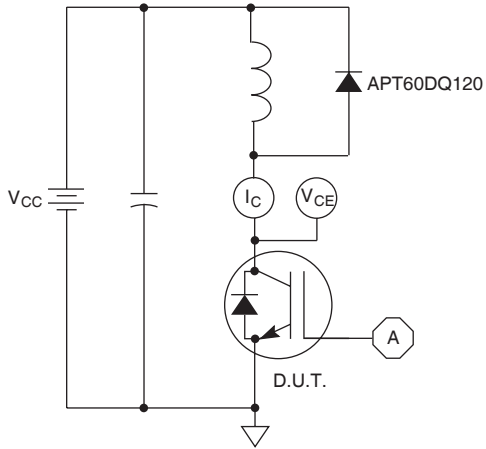

Figure 21, Inductive Switching Test Circuit
① Repetitive Rating: Pulse width limited by maximum junction temperature.
② For Combi devices,  $I_{ces}$  includes both IGBT and diode leakages
③ See MIL-STD-750 Method 3471.
④  $E_{on1}$  is the clamped inductive turn-on energy of the IGBT only, without the effect of a commutating diode reverse recovery current adding to the IGBT turn-on loss. Tested in inductive switching test circuit shown in figure 21, but with a Silicon Carbide diode.
⑤  $E_{on2}$  is the clamped inductive turn-on energy that includes a commutating diode reverse recovery current in the IGBT turn-on switching loss. (See Figures 21, 22.)
⑥  $E_{off}$  is the clamped inductive turn-off energy measured in accordance with JEDEC standard JESD24-1. (See Figures 21, 23.)